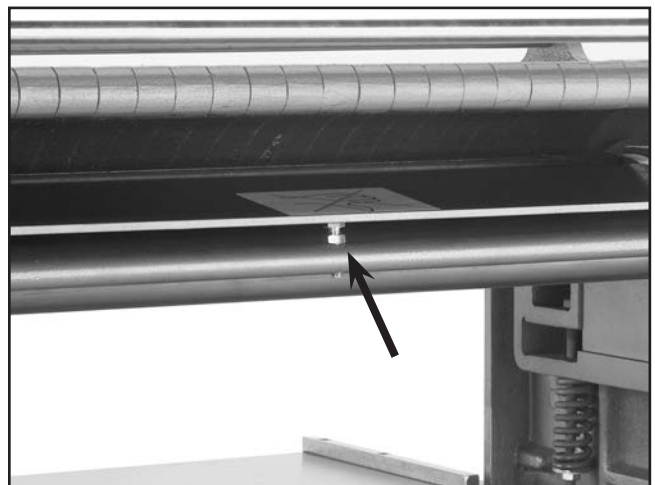

Figure 15. Pressure bar adjustment controls.
6. Adjust the pressure bar and chip breaker using the same procedure as with the feed rollers. The adjustment controls for each are shown in **Figures 15 and 16**.